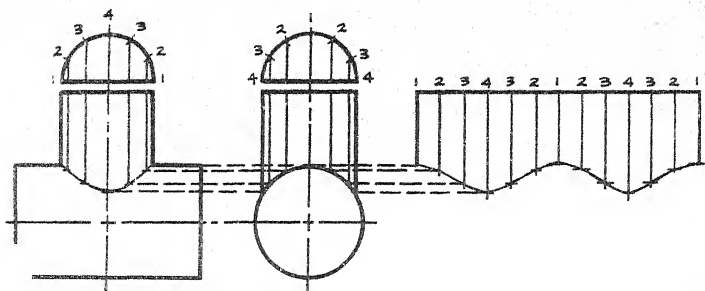

Figure 259. — Stretchout of the T.
8. To the right of the elevations, draw a stretchout equal in length to the circumference of the upper section of the *T* (see figure 259), or equal to twice the distance that you stepped off in the half plan. The height of the stretchout, obtained by projection, is equal to the maximum height of the *T*. The height is equal to the length of the longest element in the side elevation—in this case, element number 4.